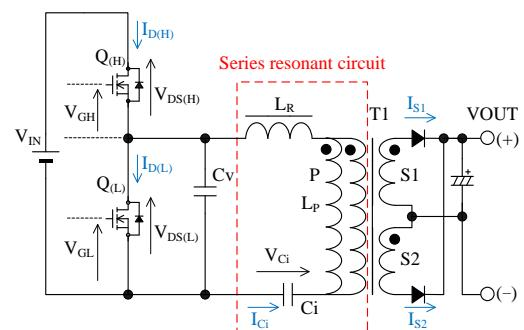
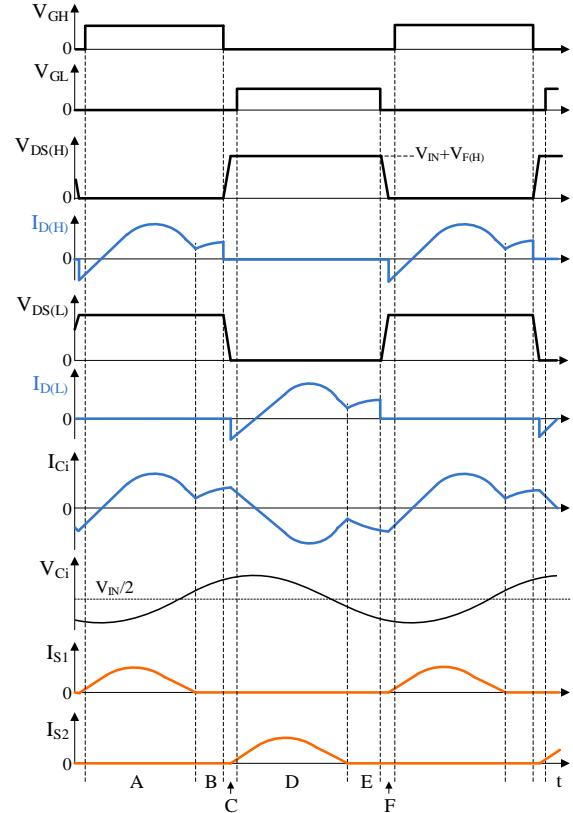

Figure 9-3. Current Resonant Power Supply Circuit
Figure 9-4. The Basic Operational Waveforms of Current Resonant Power Supply
Figure 9-3 shows the circuit of a current resonant power supply. The basic configuration of the current resonant power supply is a half-bridge converter. The switching devices,  $Q_{(H)}$  and  $Q_{(L)}$ , are connected in series with  $V_{IN}$ . The series resonant circuit and the voltage resonant capacitor,  $C_v$ , are connected in parallel with  $Q_{(L)}$ . The series resonant circuit is consisted of the following components: the resonant inductor,  $L_R$ ; the primary winding,  $P$ , of a transformer,  $T1$ ; and the current resonant capacitor,  $C_i$ . The coupling between the primary and secondary windings of  $T1$  is designed to be poor so that the leakage inductance increases. This leakage inductance is used for  $L_R$ . This results in a downsized of the series resonant circuit. The dotted mark with  $T1$  describes the winding polarity, the secondary windings,  $S1$  and  $S2$ , are connected so that the polarities are set to the same position as shown in Figure 9-3. In addition, the winding numbers of each other should be equal. From Equation (1), the impedance of a current resonant power supply is calculated by Equation (5). From Equation (4), the resonant frequency,  $f_0$ , is calculated by Equation (6).
Figure 9-4 describes the basic operational waveforms of current resonant power supply (see Figure 9-3 about the symbol in Figure 9-4). For the description of current resonant waveforms in normal operation, the operation is separated into a period A to F. In the following description: